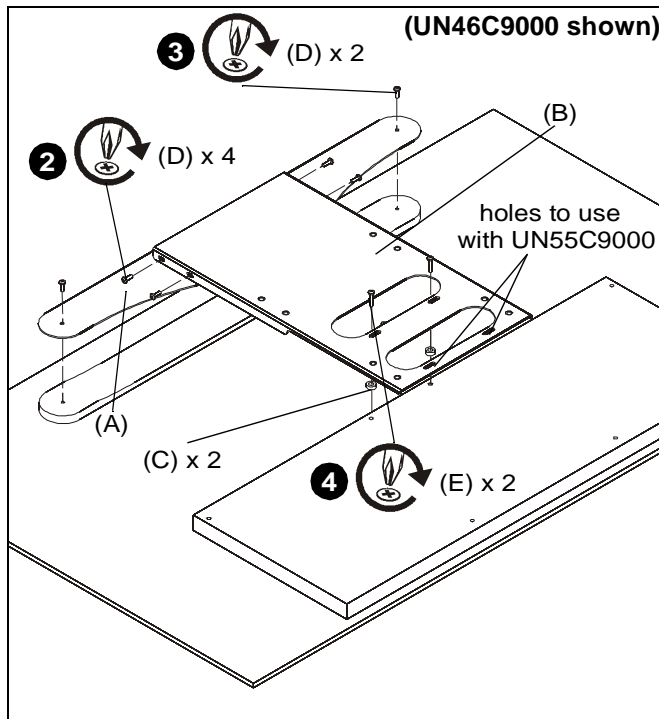

Figure 1
2. Loosely attach upper adapter bracket (A) to lower adapter bracket (B) using four M4x12mm Phillips pan machine screws (D). (See Figure 1)
3. Attach upper adapter bracket (A) to display using two M4x12mm Phillips pan machine screws (D). (See Figure 1)
4. Attach lower adapter bracket (B) to display using two M4x20mm Phillips pan machine screws (E) and two
spacers (C). (See Figure 1)